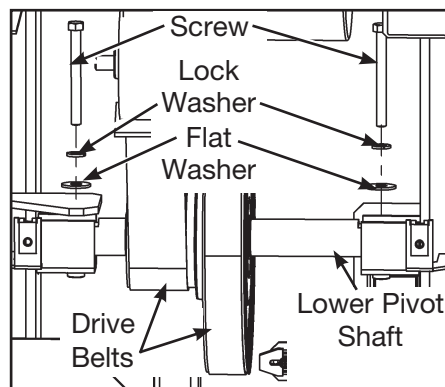

Figure 3
- B. Remove the lower pivot assembly out of the secondary belt and from the frame. See Figure 3.